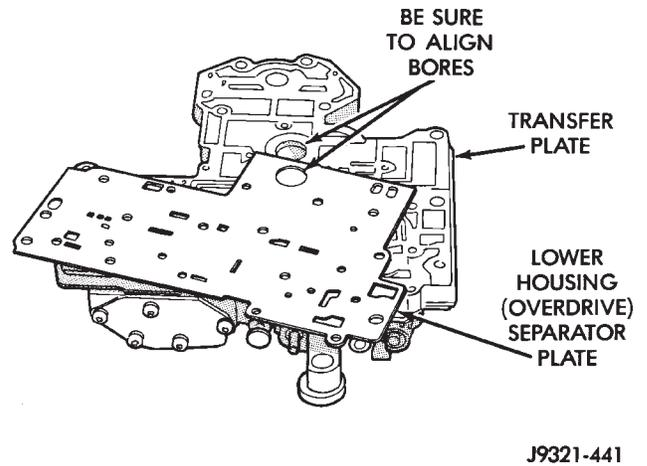

Fig. 100 Lower Housing Separator Plate
- (4) Position lower housing separator plate on transfer plate (Fig. 100).